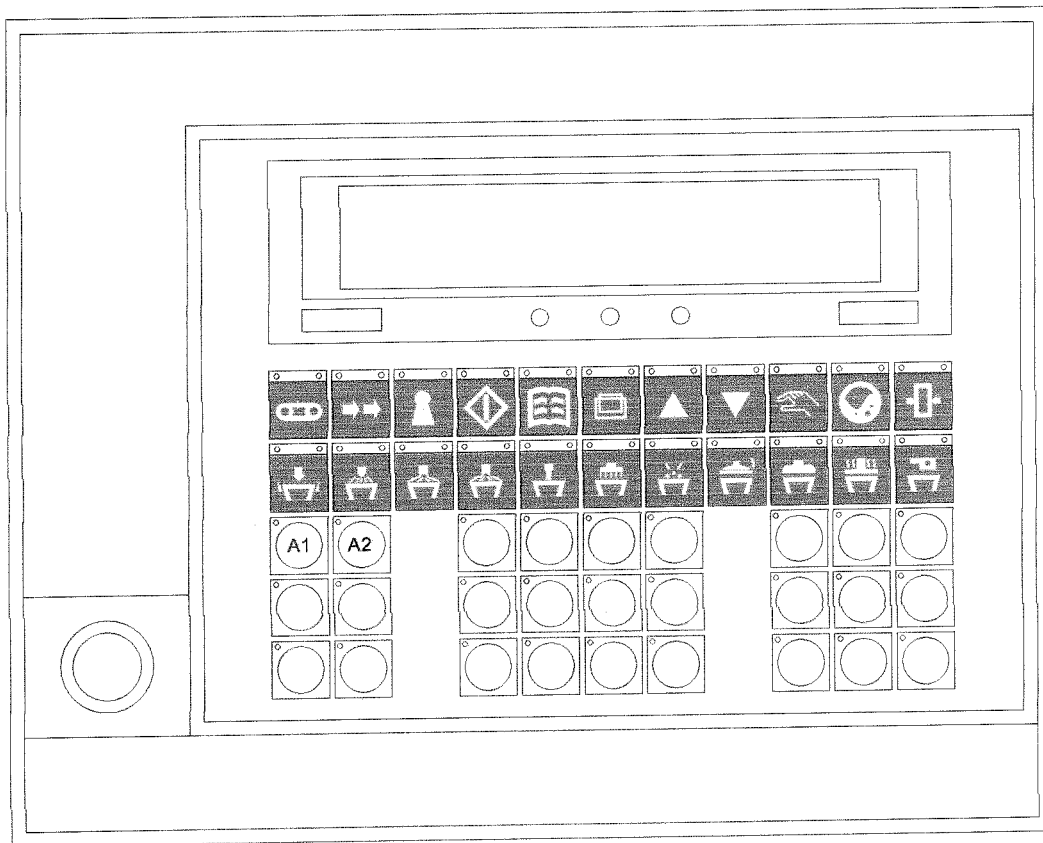

Fig. 6.26
The dosing station is activated by pressing the "ice cream dosing" button   (*Fig. 6.26*) which automatically closes the bypass.
is activated using the “pencil filler” button  (*Fig. 6.26*).
To start heating the chocolate, press the “chocolate tank heater” button A1 (*Fig. 6.26*).
press the “chocolate sprayer” button  (*Fig. 6.26*).
The water in the chocolate tank jacket must be heated at least half an hour before use. The water heater is switched on by pressing button A1 (*Fig. 6.26*).
button  (*Fig. 6.26*).
The station is activated by pressing button  (*Fig. 6.26*). The vacuum control and the rotation of the cylinder are adjusted by means of the corresponding cams.
(*Fig. 6.26*) and adjusted by means of cams through the operator interface, with the appropriate inputs in the electronic programmer.
The process is activated by pressing button  (*Fig. 6.26*) and controlled by cams through the operator interface which controls the input to the electronic programme.
- b. Press the chocolate tank heater button A1 (Fig. 6.26).
- g. Position the bypass valves to feed the dosers by pressing button A2 (Fig. 6.26).
- i. Press the run and doser start-up button F9  (Fig. 6.26). The lamellas will start moving.
The station is activated by pressing the cup feed button  (*Fig. 6.26*) on the control panel.
The station is activated by pressing the button  (*Fig. 6.26*).